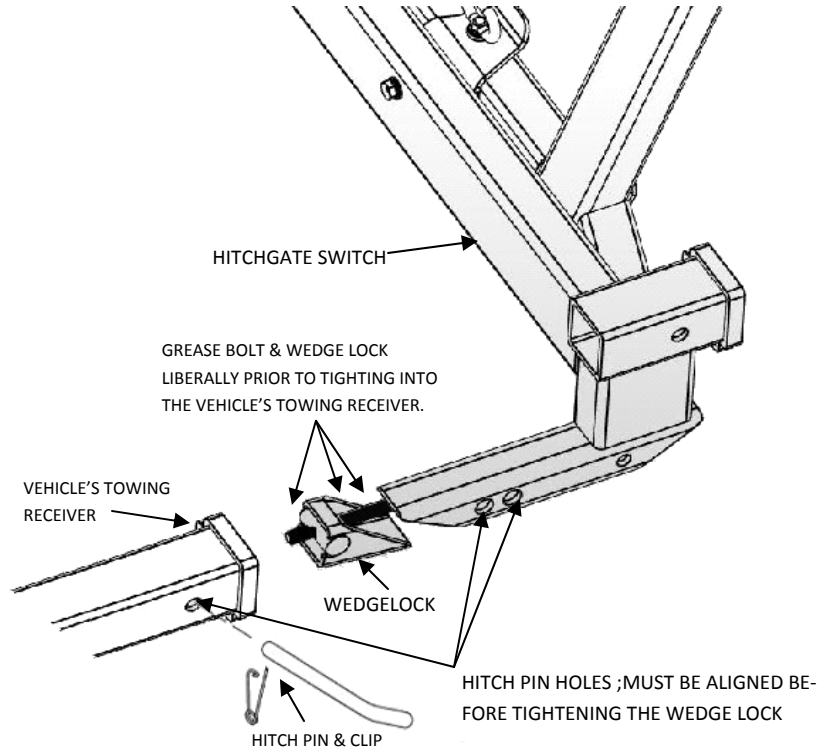

Figure 1. Grease wedge-lock before inserting into receiver.
3. Liberally grease the bolt and anti-rocking wedge-lock on the end of the receiver insert. See Figure 1.
5. Align the HitchGate's hitch pin holes with the receiver's using the hitch pin. See Figure 1. Remove the hitch pin.